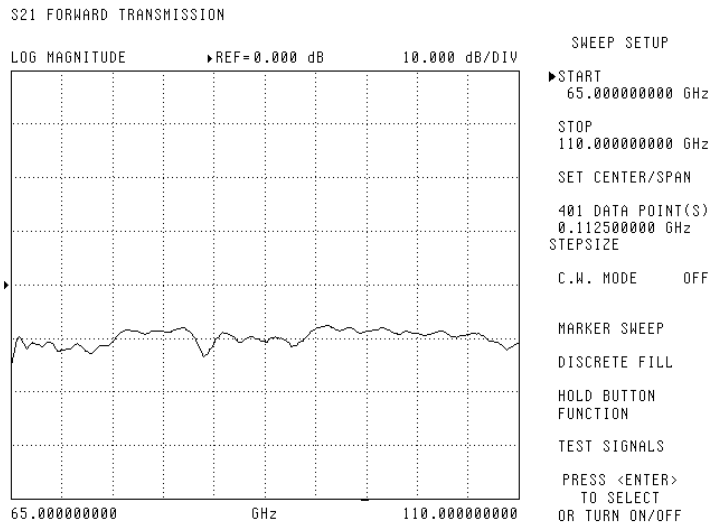

Figure 15-5. Normal S21 Display of MM Module Uncalibrated Transmission
- Step 7.** Ensure the display is similar to Figure 15-5 (next page).
Step 10. Ensure the display resembles Figure 15-5.